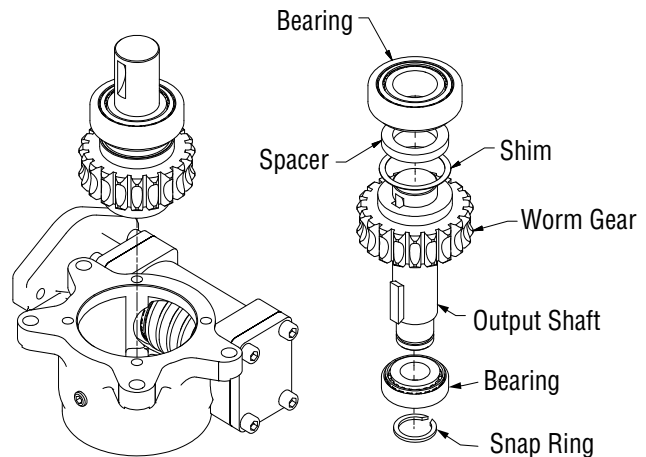

Figure 5-28, Output Shaft
7. Remove the output shaft assembly. (Figure 5-28)